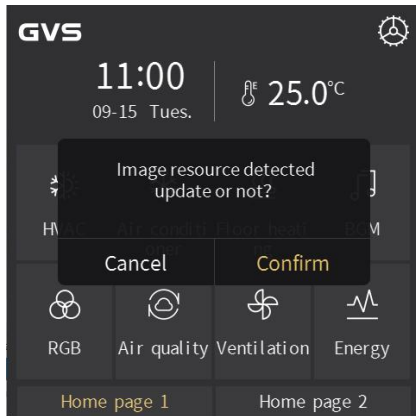

Fig.4.1
2. Insert Micro SD card into the device, if Micro SD card meet the above settings, and there are valid pictures, then pop up a window to request update, as shown in Fig.4.1;
**Note:** ① Replacing pictures according to the icon number of the new picture corresponding to the replacing ID number: for example, placing "icon\_0\_a.png", "icon\_0\_b.png" and "icon\_0\_c.png" in the folder named "Functionicon", it will replace the original icon with ID NO.0. "icon\_0\_a.png" is not necessary, the default icon stay as default or as last replaced. The rest customized icon ID are the same principle.
② Update pictures: when there is a folder named "Functionicon" in the Micro SD card, and there is a picture in accordance with valid name and format, then it will update and store (even if the picture is the same as the last saved).